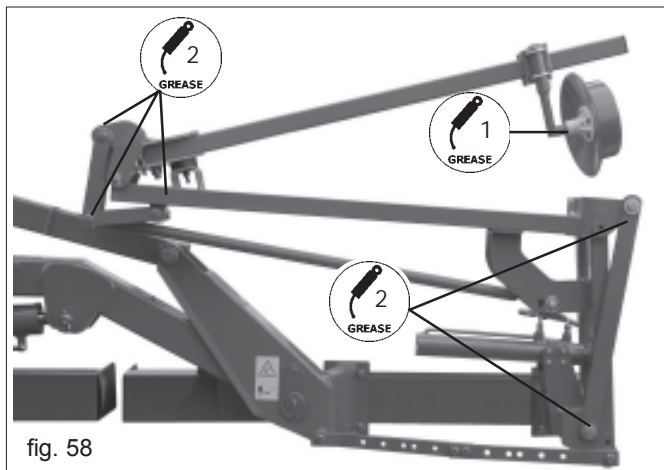

fig. 58
- Grease the row-marker disc pin (1 Fig. 58).